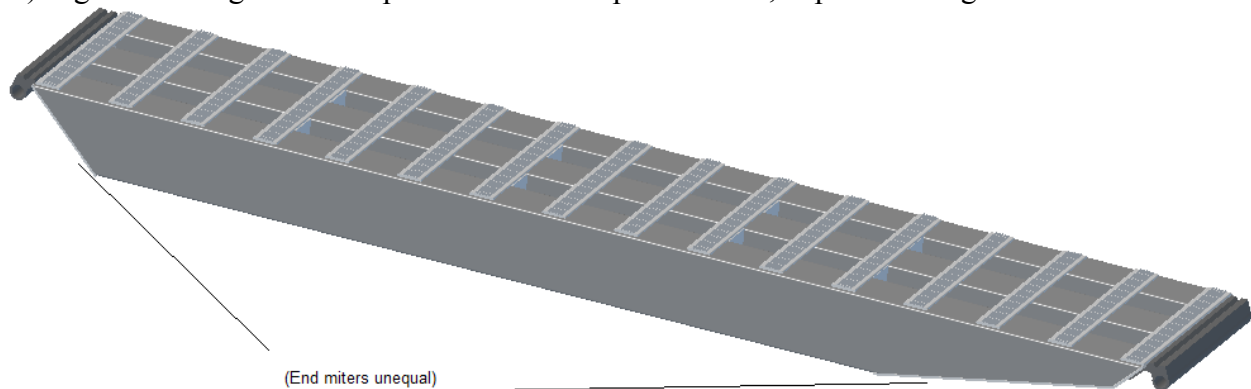

Figure 5 – Illustrated view of a Single 8 ft Lower Ramp Section
- (Qty: 2) Eight-foot-long lower ramp sections w/ compound miter, depicted in Fig. 5: